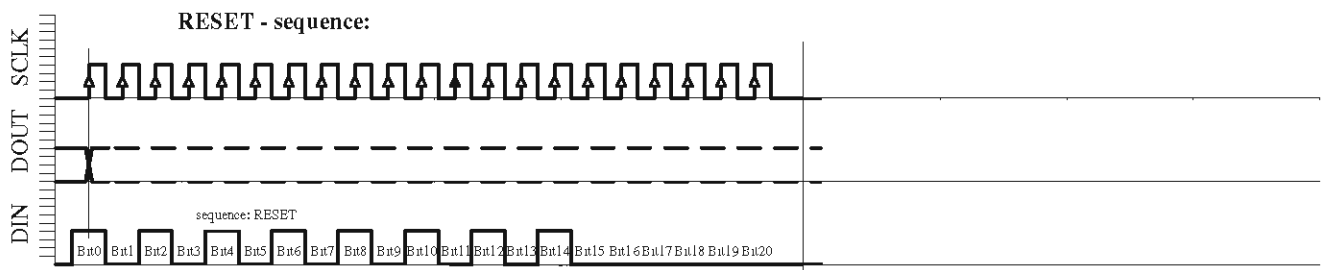

Fig. 6e: RESET sequence (21 bit)
- RESET sequence (Figure 6e)
The RESET sequence is special as the module in any state recognizes its unique pattern. By consequence, it can be used to restart if synchronization between the microcontroller and the MS5540C has been lost. This sequence is 21-bit long. The DOUT signal might change during that sequence (see Fig. 6e). It is recommended to send the RESET sequence before each CONVERSION sequence to avoid hanging up the protocol permanently in case of electrical interference.